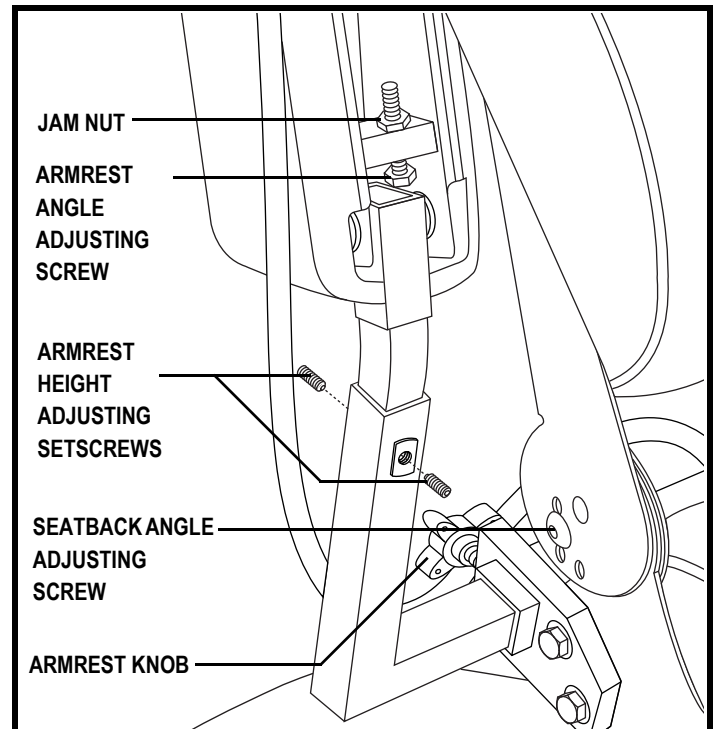

Figure 18. Seatback/Armrest Adjustment
1. Remove the adjusting screws from each seat hinge. See figure 18.
1. Locate the two armrest knobs on each side of the armrest receiver bracket. See figure 18.
1. Lift the armrest straight up so that it is perpendicular to the floor. See figure 18.